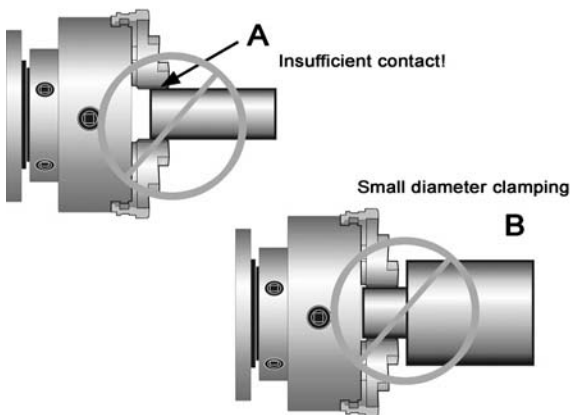

Figure 30 – Improper setups
- Avoid short clamping contact (Figure 30, A) or clamping on a minor part diameter (Figure 30, B). Face-locate the workpiece for added support.